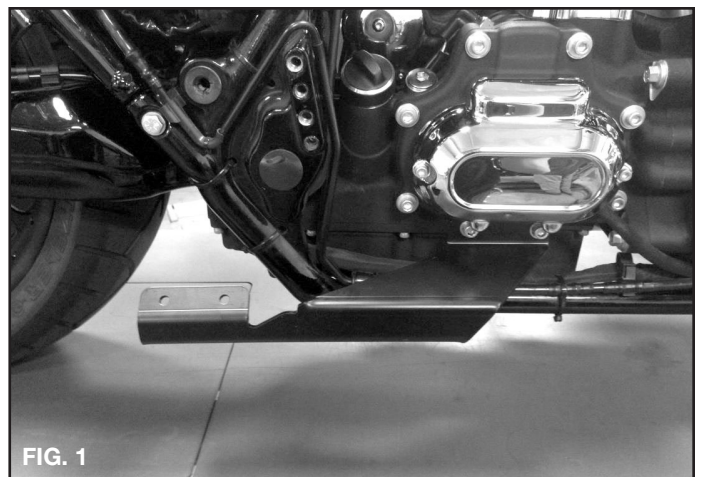

FIG. 1
13. Replace the bracket on the transmission housing with the new bracket (stamped 869-P) and torque to 13-16 ft.-lbs. (FIG. 1)